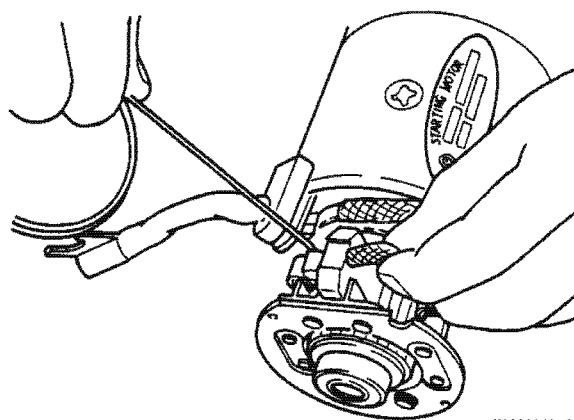

Figure 10-6
6. Pull the brush springs up using a brush spring puller. On the negative (-) side, bring the brush spring into contact with the side of the brushes to hold the brushes clear of the commutator surface. On the positive (+) side, remove the brushes from the brush holder assembly (Figure 10-6).